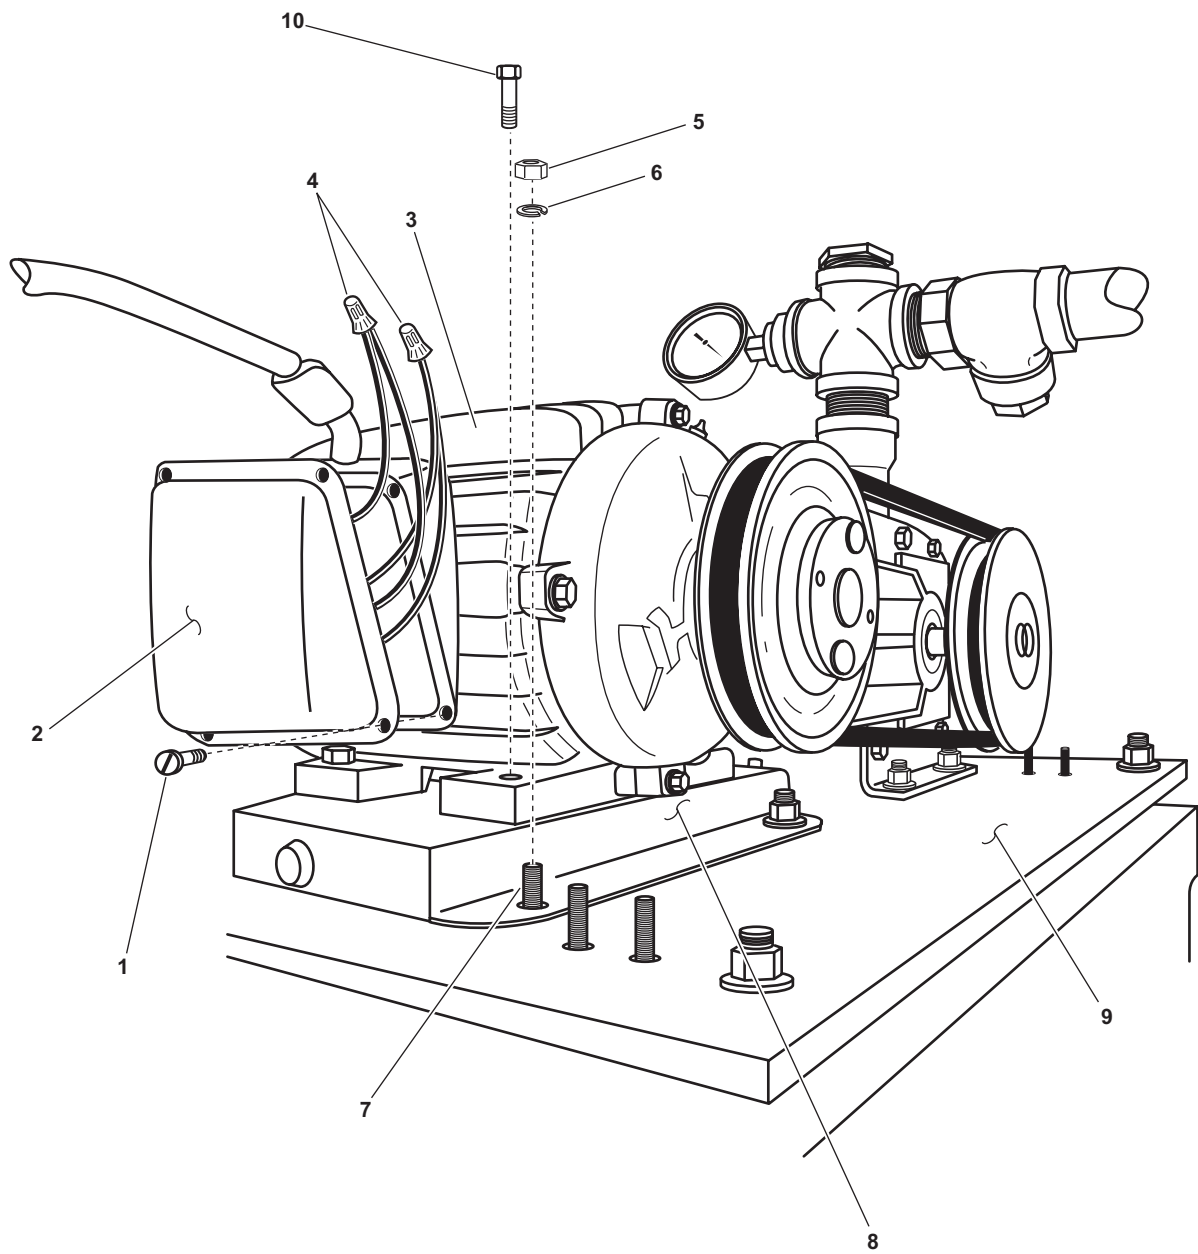

Figure 1. Blower Assembly Motor
2. Remove the four screws (figure 1, item 1) from the junction box cover (figure 1, item 2) on the blower assembly motor (figure 1, item 3).
3. Remove the junction box cover (figure 1, item 2) from the blower assembly motor (figure 1, item 3).
4. Check for available voltage at the wiring (figure 1, item 4). If voltage is present, ensure that the proper circuit breaker is secured, locked out, and tagged out (FM 55-502). If no voltage is present, continue with the procedure.
5. Label and disconnect the wiring (figure 1, item 4) to the blower assembly motor (figure 1, item 3).
6. Remove the four nuts (figure 1, item 5) and the four lockwashers (figure 1, item 6) from the studs (figure 1, item 7) that secure the blower assembly motor mounting plate (figure 1, item 8) to the foundation (figure 1, item 9). Discard the lockwashers.
7. Using two crewmembers, remove the blower assembly motor (figure 1, item 3) and the blower assembly motor mounting plate (figure 1, item 8) from the foundation (figure 1, item 9).
8. Remove the four bolts (figure 1, item 10) that secure the blower assembly motor (figure 1, item 3) to the blower assembly mounting plate (figure 1, item 8).
9. Using two crewmembers, remove the blower assembly motor (figure 1, item 3) from the blower assembly mounting plate (figure 1, item 8).
1. Using two crewmembers, install the blower assembly motor (figure 1, item 3) on the blower assembly mounting plate (figure 1, item 8).
2. Install the four bolts (figure 1, item 10) that secure the blower assembly motor (figure 1, item 3) to the blower assembly mounting plate (figure 1, item 8). Do not tighten the bolts at this time.
3. Using two crewmembers, install the blower assembly motor (figure 1, item 3) and the blower assembly motor mounting plate (figure 1, item 8) on its foundation (figure 1, item 9).